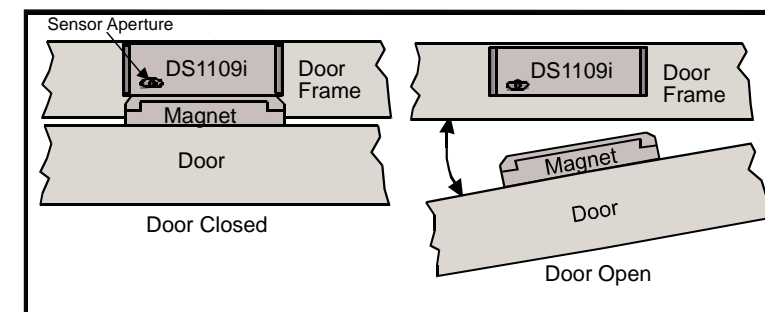

Figure 3.3: View Looking up from Floor
- The detector must be mounted so that the door swings outward from the detector. See Figure 3.3.